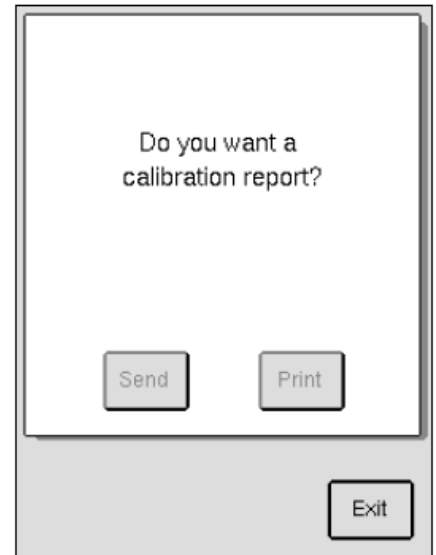

Figure 2
25. There is no calibration needed for RDW%. When RDW% is displayed, simply press [Exit] until you reach the screen shown in Figure 2.